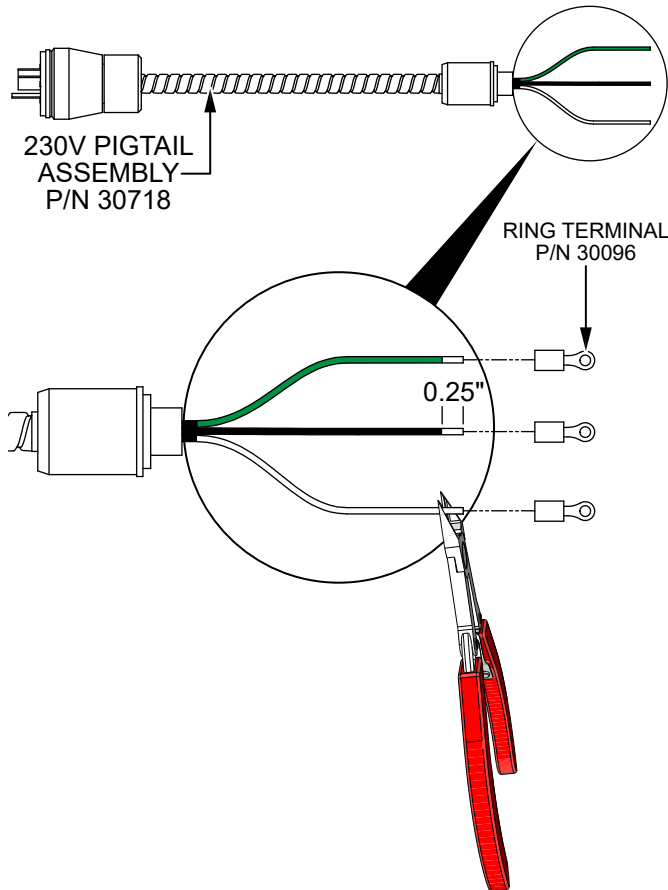

Figure 5. Install Ring Terminals
1. Locate the 230V pigtail assembly (P/N 30718). Strip the insulation back 1/4" from the end of each of the three pigtail assembly wires (Figure 5).
2. Place a ring terminal (P/N 30096) onto the end of each of the three pigtail assembly wires and crimp. See Figure 5.